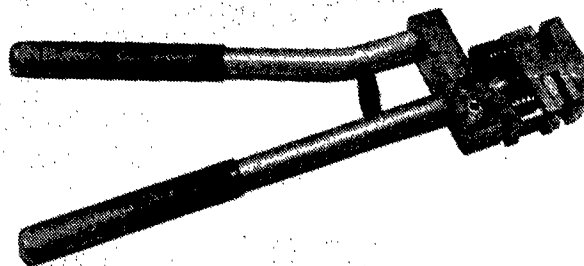

Figure 2-6. Offset/Punching Tool
F. Offset/Punching Tool (Figure 2-6)